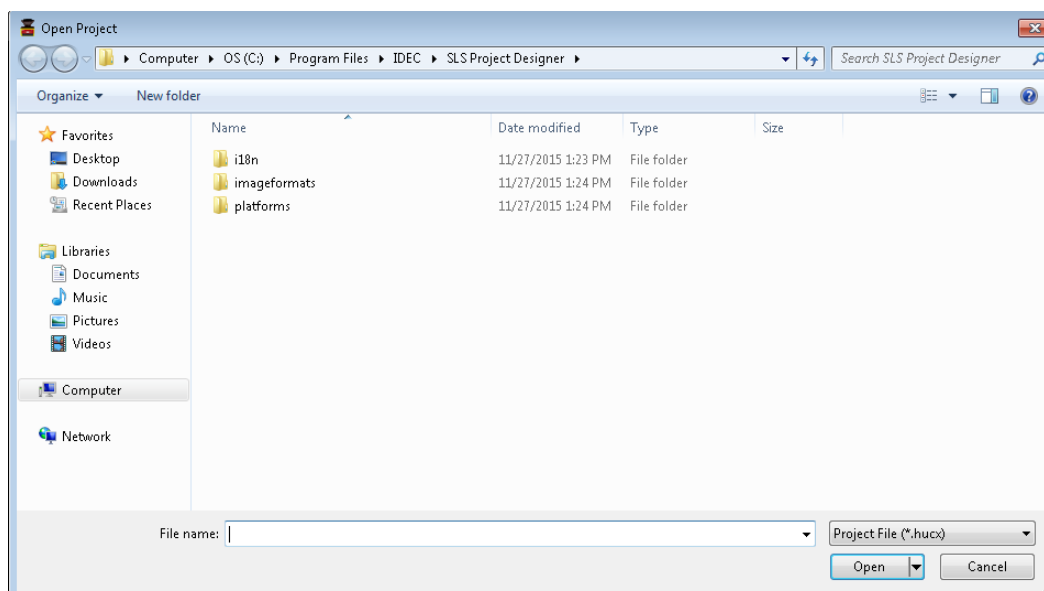

Figure 7-55 Save project file
- c) Dialog box will appear (Figure 7-55). Select the project file [\*\*\*\*\*.hucx] to open.